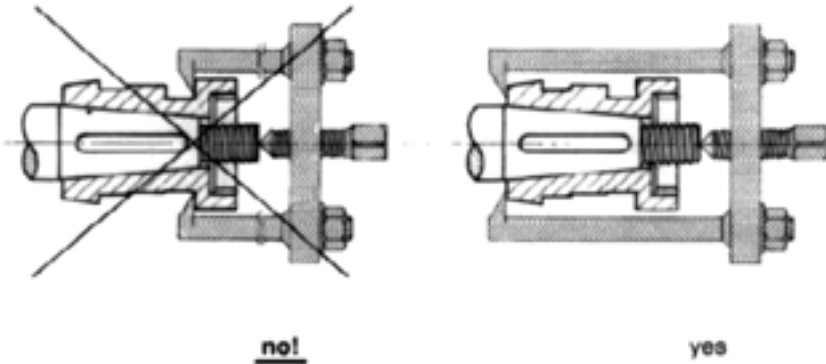

Fig. 10
- 7) **PROPELLER REMOVAL:** In order to remove the propeller you must first remove the spinner and nut. Be sure only to pull from outside the hub (figure 10). If the surfaces on the hub are hit or dinged it can effect the performance of the propeller.